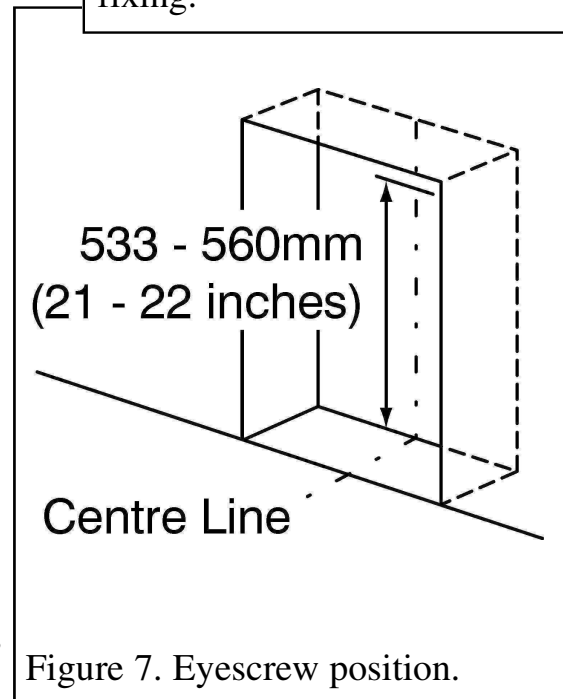

Figure 7. Eyescrew position.
2. Mark the eyescrew position on the centre line at the back of the fireplace opening and at a height of 533-560mm (21 inches - 22 inches) (See figure 7).